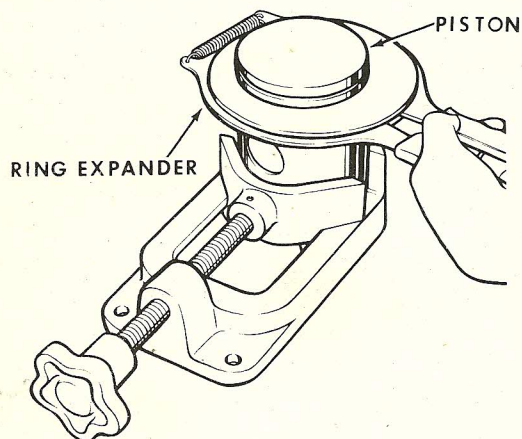

Figure M-25
2. To avoid damage to the piston, remove the piston rings with a ring expander, Figure M-25.